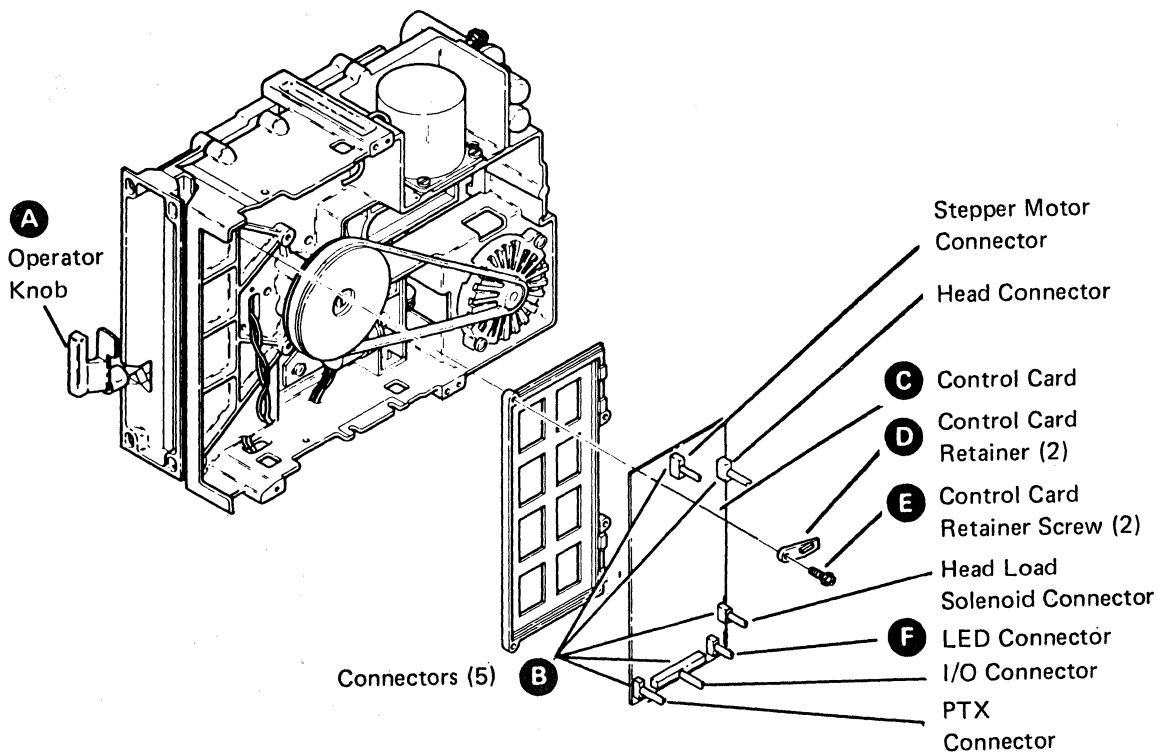

Figure E-40. Diskette Drive Control Card
E.3.7.1 Control Card Removal (Figure E-40)
E.3.7.2 Control Card Replacement (Figure E-40)